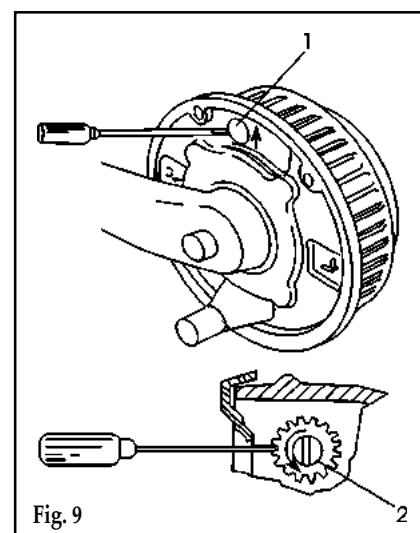

Fig. 9
- v. Always rotating the road wheel in the forward direction - never backwards; adjust the starwheel with a suitable screwdriver, in the direction of the arrow embossed on the backplate until there is resistance in the wheel rotation (fig. 9).
- vi. Slacken off the starwheel adjuster until the road wheel turns freely in the forward direction (fig. 9).